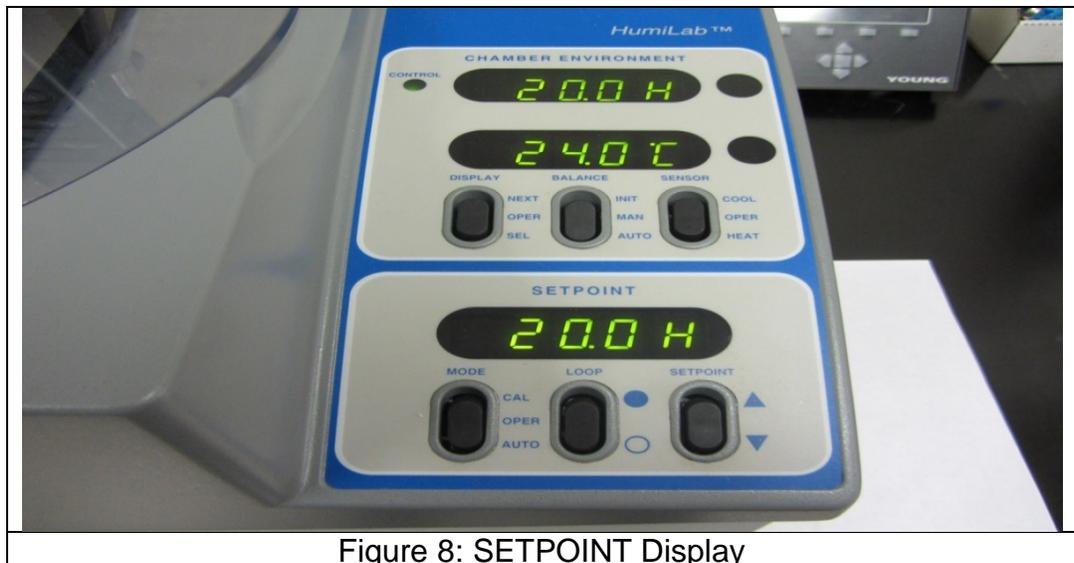

Figure 8: SETPOINT Display
- 11.5 On the RH reference standard, press and hold down the up arrow on the “SETPOINT” toggle button until the “SETPOINT” display indicates 20.0 H. See Figure 8.